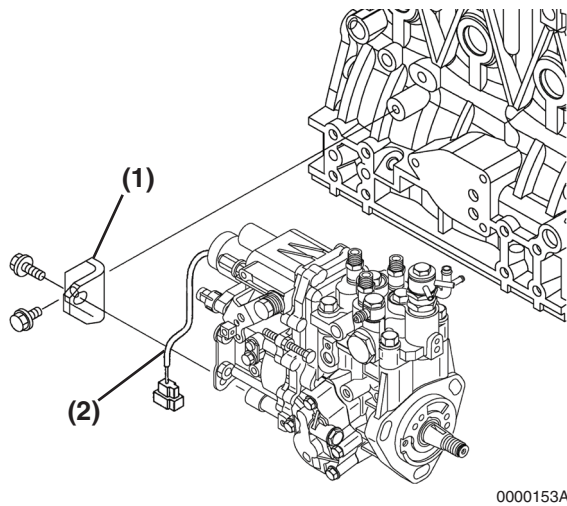

Figure 7-28
6. Reinstall the rear bracket(s) (**Figure 7-28, (1)**) to the fuel injection pump. Tighten the rear support bolts.